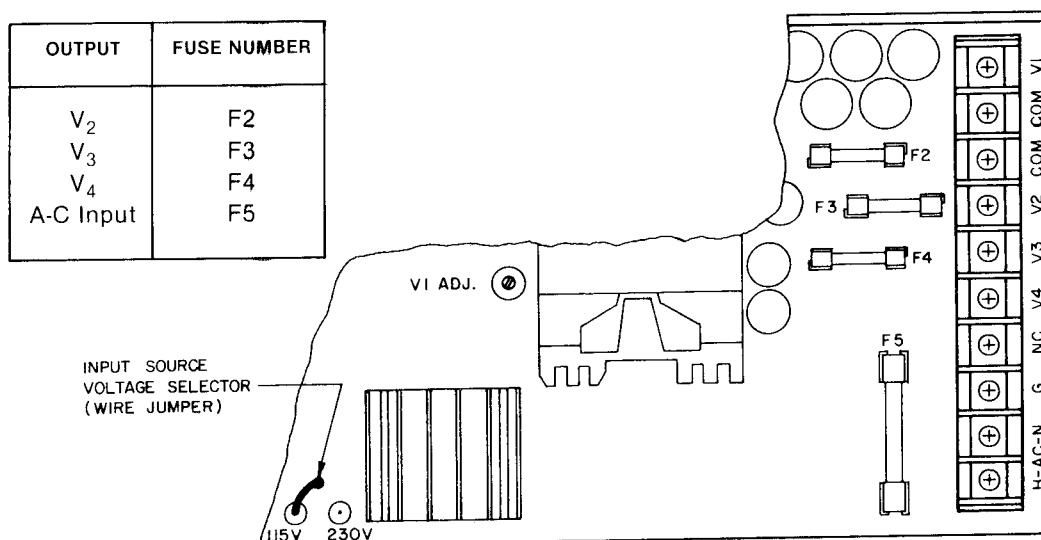

FIG. 2-1 EFX 150T POWER SUPPLY, SIMPLIFIED TOP-VIEW.
- F) OUTPUT ADJUSTMENT RANGE: $\pm 10\%$, Principal Output only; Auxiliary Outputs are fixed. The location of the output adjustment rheostat is shown in Section II, FIG. 2-1.
- G) CURRENT LIMIT AND SHORT CIRCUIT PROTECTION: The principal output (V_1) is protected against overcurrent by means of a fixed (16 to 22A) limiting circuit, having a rectangular characteristic. Each of the three (3) auxiliary outputs is protected against short circuits by means of a fuse on the printed circuit board, see FIG. 2-1. In addition, an internal current limit is activated when the total output power exceeds the rated power by approximately 30%.
2-7 All EFX power supplies can be operated on a-c, single phase power lines (47 to 440 Hz). The units are normally delivered for operation on a 100 to 130 a-c source. For operation on a 200 to 260V a-c source, remove the wire jumper from the "115" position and reconnect it to the "230" position, see FIG. 2-1.
2-8 FUSE CHANGE (See FIG. 2-1)
2-9 All fuses are located on the printed circuit board and are clearly marked with fuse number and value. The relationship between the outputs and their fuse number is shown in the table of FIG. 2-1.